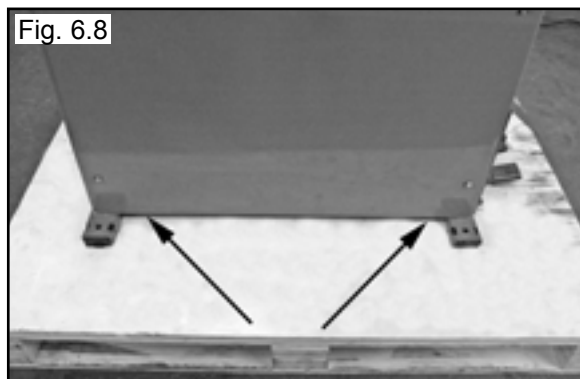

Fig. 6.8
7. Using a shop crane or fork lift with lifting straps, remove the Tire Changer from the wooden pallet. Use only properly rated lifting straps under the Tire Changer base. (See Fig. 6.8)